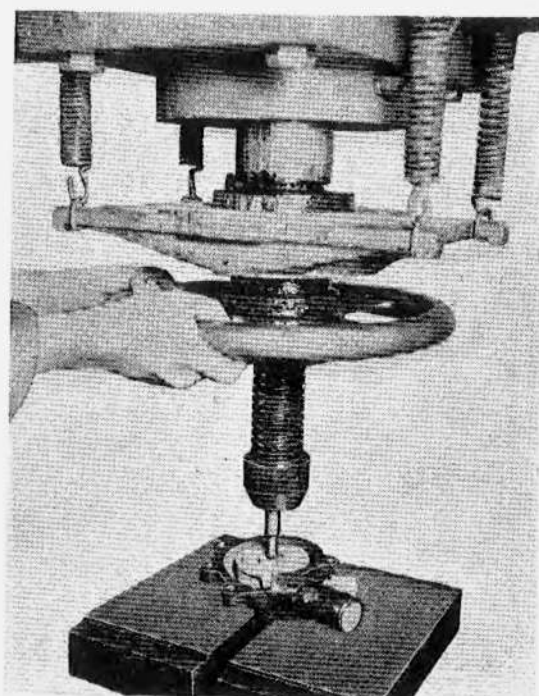

Figure 163—Removing Water Pump Shaft and Bearing Assembly
- (3) Remove bearing retaining wire from pump body using long nose pliers.
- (4) Support pump on milled shoulder of body in a hand arbor press or a press plate in arbor press. Press shaft and bearing assembly out of pump body. Remove rotor assembly (Fig. 163).
- (5) Remove thrust washer guide pipe, and then remove thrust washer and seal from rotor, and discard.